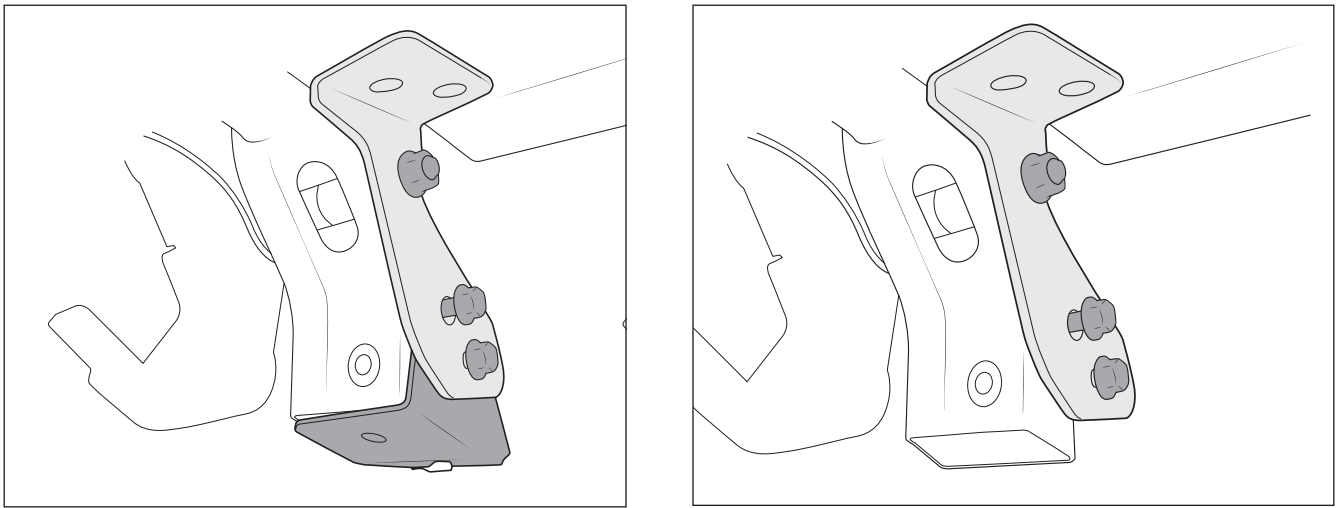

Figure 12: With Skidplate Bracket (left) Without Skidplate Bracket (right)
4. Loosely install winch support brackets to the riv-nuts using provided M10x40mm flange bolts and loosely install flange nuts to the M12 tow loop bolts. If installing AEV Front Bumper Skidplate, install the provided mounting brackets between winch support brackets and compatibility beam (fig. 12).